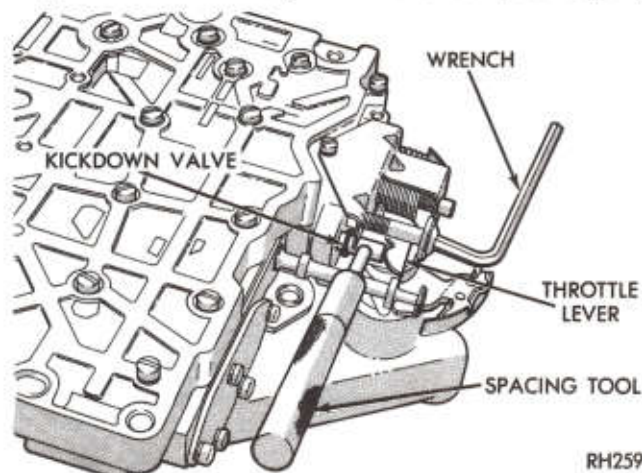

Fig. 6—Throttle Pressure Adjustment
- (1) Insert gauge pin of Tool C-3763 between the throttle lever cam and kickdown valve (Fig. 6).
- (2) By pushing in on tool, compress kickdown valve against its spring so throttle valve is completely bottomed inside the valve body.
- (3) As force is being exerted to compress spring,